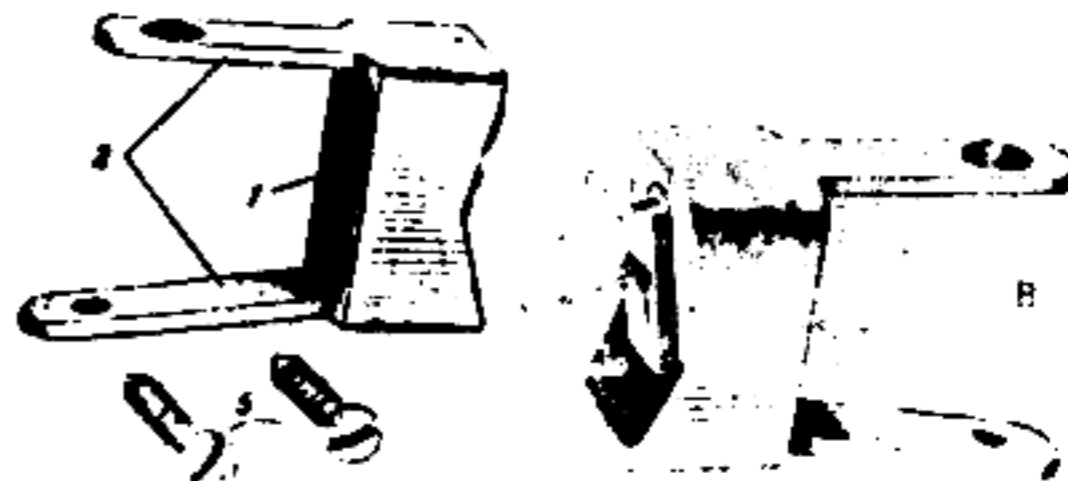

Figure 50. Clamp (5-13).
The clamp (fig. 50) protects the butt from splitting and holds it to the receiver. The clamp has a recess (1) for the forward end of the butt, two lugs (2) with holes for screws, lug (3) with grooves for attaching the butt to the receiver. On the lug there is a groove (4) for the pin which holds the butt to the receiver. The clamp is attached to the butt by means of screws (5).